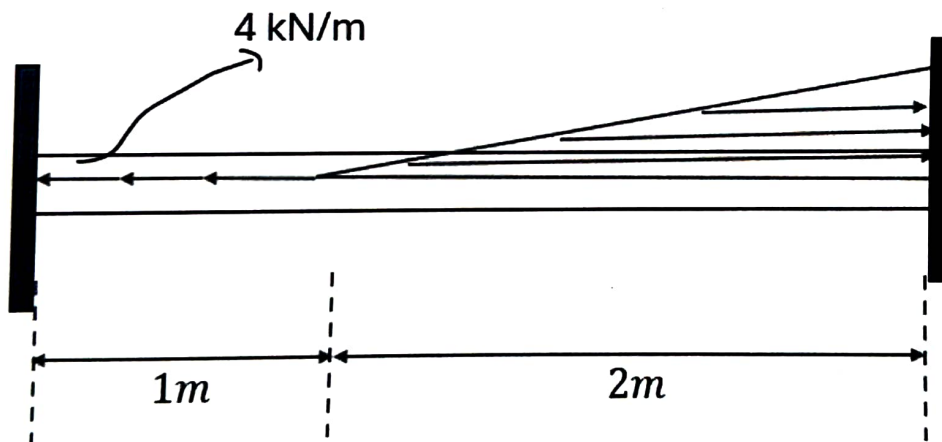

Figure 1
- Q.1. For the bar shown in the Figure 1, determine the unknown displacement using FEA. Assume the constant Young's modulus E (kN/m^2) and area of cross section A (m^2) throughout. The linearly varying load has a magnitude zero at $x=1\text{m}$ and 8kN at $x=3\text{m}$. Determine the reactions at the fixed support. Draw the displacement, strain and stress profile over the length of the bar. [10 Marks]